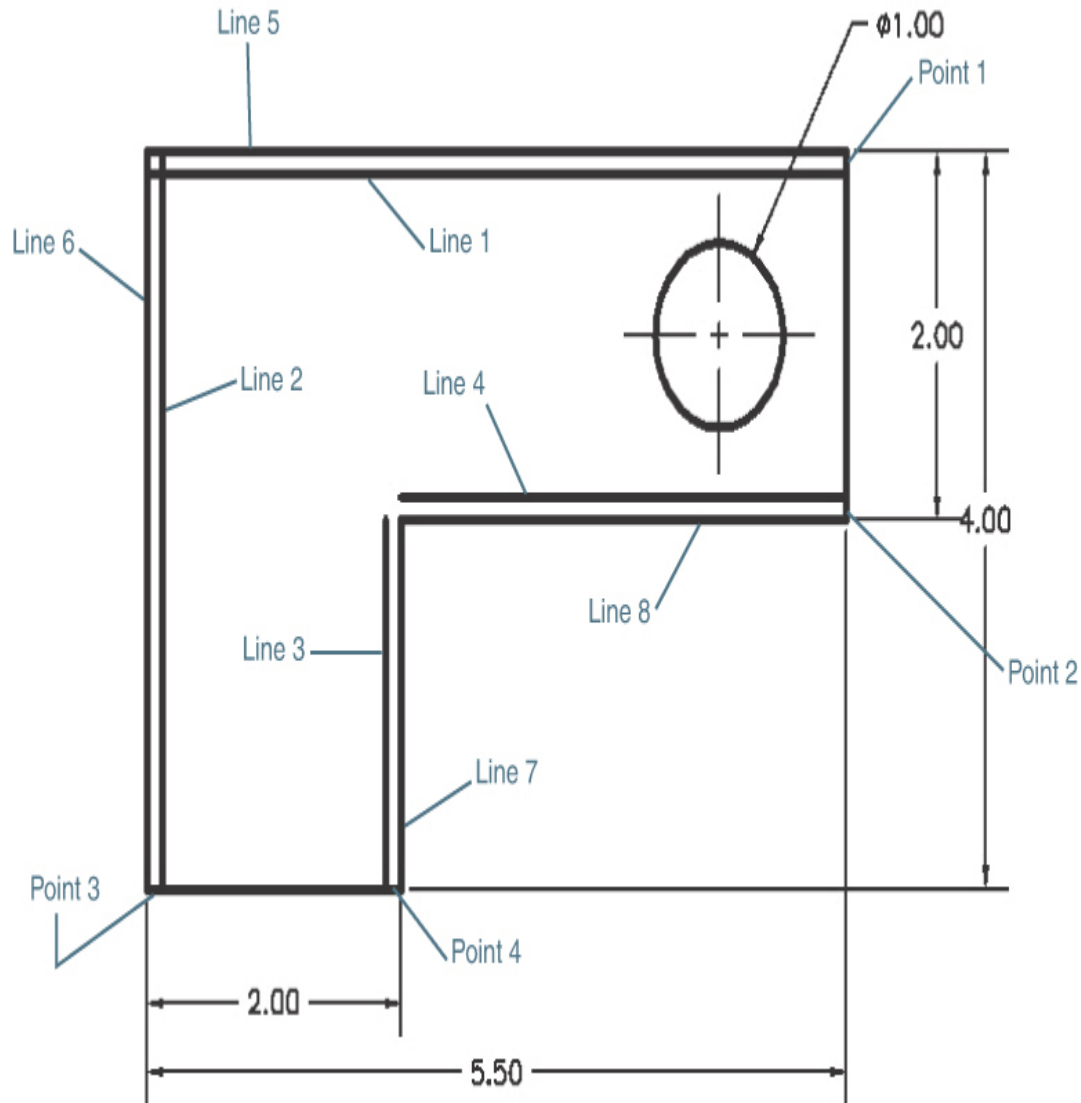

Figure 2-48
- 2** Select lines 1-4 shown in Figure 2-48 and press **<Enter>**. AutoCAD prompts you to *Select object to trim or shift-select to extend or ↓*.
- 3** Pick a point on the short line segment shown at point 1 in Figure 2-48. The vertical line is trimmed, and AutoCAD prompts you again to *Select object to trim or shift-select to extend or ↓*.
- 4** Pick the line segments shown at points 2, 3, and 4 in Figure 2-48. The lines are trimmed.
- 7** Select lines 3 and 4 in Figure 2-48 and press **<Enter>**. AutoCAD prompts you to *Select object to extend or shift-select to trim or ↓*.
- 9** Pick a point toward the top of line 3 in Figure 2-48. The vertical line is extended, and AutoCAD prompts you again to *Select object to extend or shift-select to trim or ↓*.
- 10** Pick a point on the left of line 4 in Figure 2-48. The line is extended.
- 13** Select lines 1 and 2 near the upper-left corner in Figure 2-48. Both lines are trimmed to form a closed corner by creating a fillet with a radius of 0.00.
- 14** Choose the **Erase** tool from the **Modify** panel and erase lines 5, 6, 7, and 8 (refer to Figure 2-48).